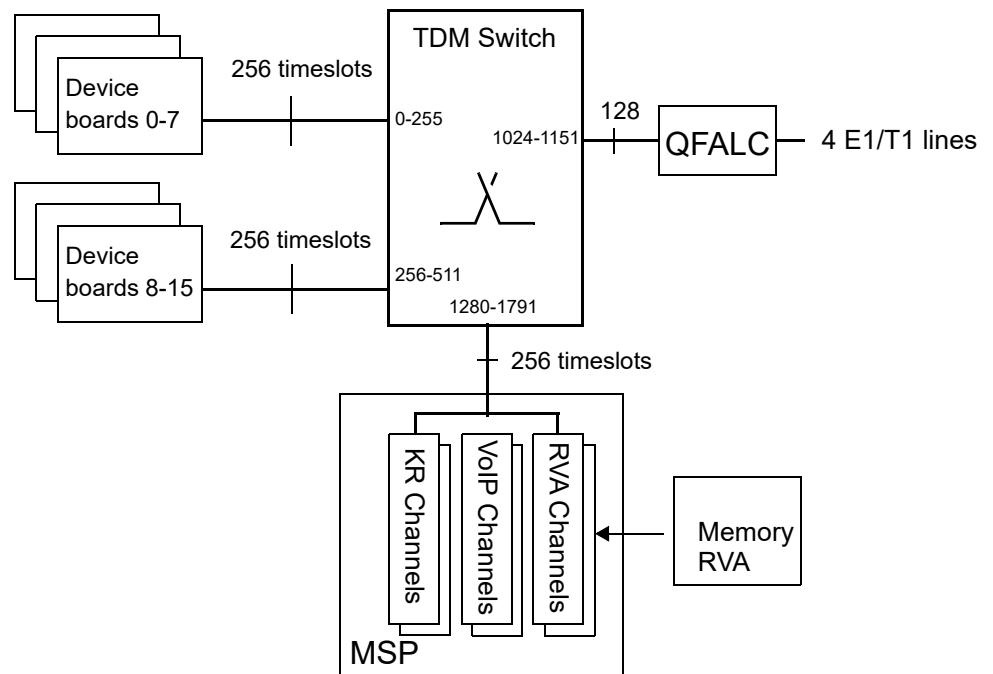

Figure 3: TDM switch and interconnection to TDM devices
The TDM switch is a non-blocking Time-Space-Time switch handling cross connections for up to 2048 64kbps timeslots. Of these, only 896 are connected and used, as shown in figure 3 below.
Figure 3 below shows the TDM switch and interconnection of TDM devices on MGU2. The figure shows the physical (HW) timeslot numbers. These numbers can be mapped to logical timeslot numbers (multiple numbers) and EQU (Equipment) positions as shown in table See “TDM Switch Timeslots to Equipment/Resource mapping” on page 9..